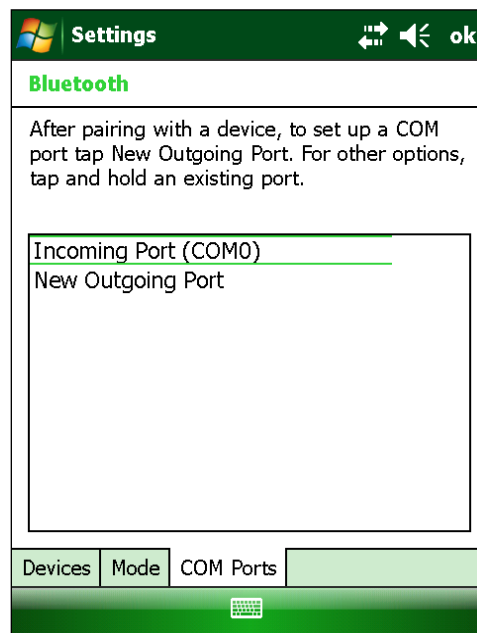

Figure 11 - New Outgoing Port
- 6) Click on the COM Ports tab, if the “Geokon” device is already assigned to a COM Port skip to step nine. If no COM Port is assigned, tap on “New Outgoing Port”. In the example shown in Figure 11, there is no COM Port assigned to a “GK405” device.